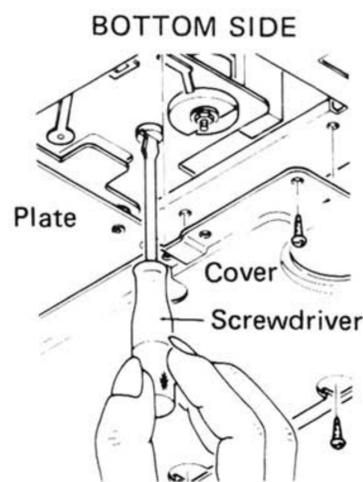

Fig. 14
1. Remove the two solenoid ass'y securing screws ③.
2. Remove four screws ②, then remove the mechanism base securing plate. (This plate is shown in Fig. 14.)
3. Remove two screws ④ on the plate side.